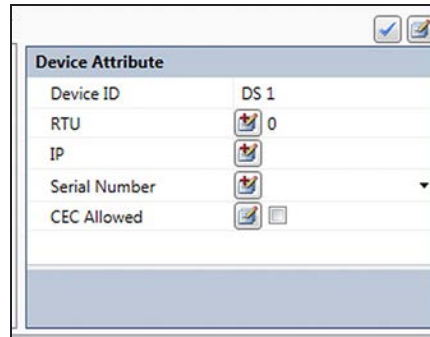

Figure 63. Multi-Update buttons on the Device Attribute dialog box.
STEP 4. The multiple attributes that contain the **Multi-Update** button also can be automatically updated. A **Multi-Update** button with a “+” indicates the multi-update function will increment the values. For example, a multi-update applied to the RTU attribute will set the devices’ RTU values to 1, 2, 3, ... while a multi-update to the CEC Allowed attribute will set all selected devices to **CEC Allowed** mode. See the following steps about invoking multi-updates. See Figure 63.